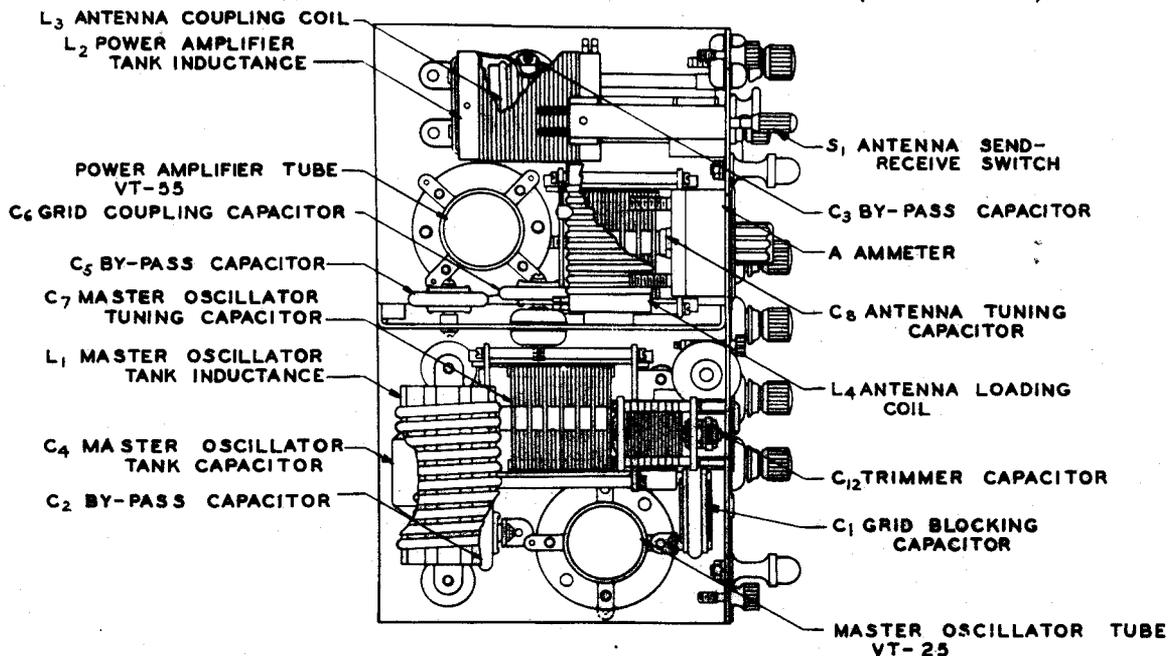

Fig. 2.—Transmitter chassis, top.
**CALIBRATION DATA.** A frequency calibration chart mounted on the cover of the operating chest is supplied for setting the transmitter at the desired operating frequency. If recalibration should be necessary, adjust the transmitter with Frequency Meter SCR-211-(\* ) set to a frequency near high end so that its output beats against the transmitter's output in a nearby receiver. Adjust trimmer  $C_{12}$  (fig. 2) for zero beat.